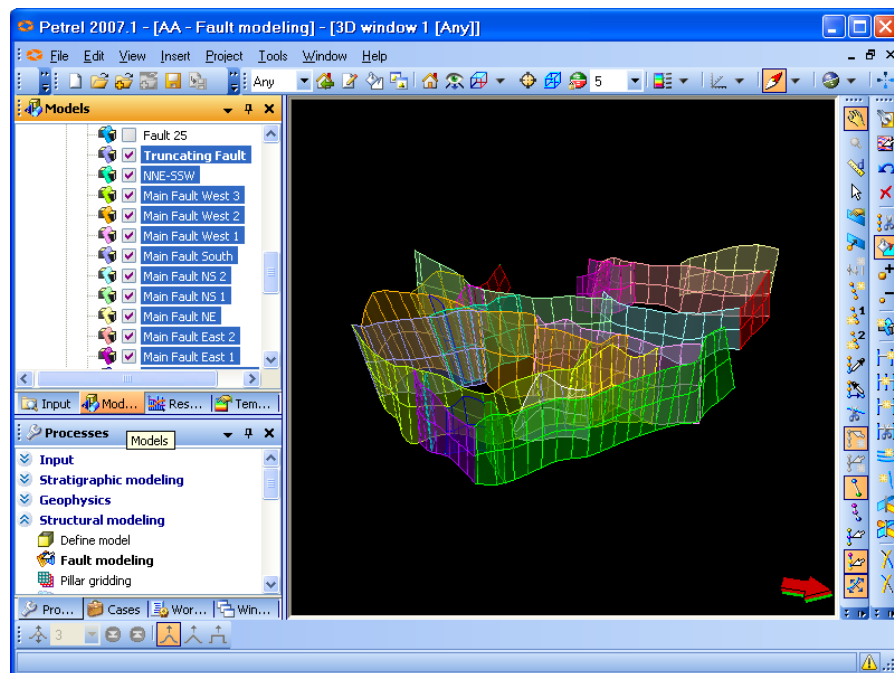

Fig. 11.30: The Key Pillars for fault sticks created
6. Repeat the same process to the other faults. See Fig. 11.30.